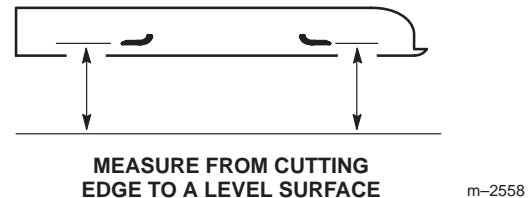

Figure 28
2. Measure from a level surface to the cutting edge of the blades (Fig. 28). Note this dimension.